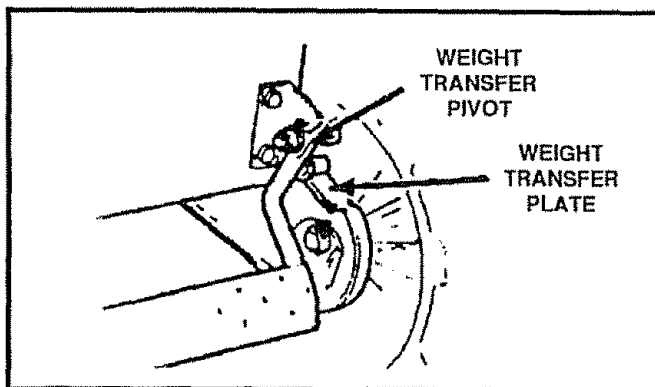

FIG. 18
- Weight Transfer System - Coat weight transfer plate (See Fig. 18) with clinging type grease, such as Lubriplate, every ten (10) hours and before storage.